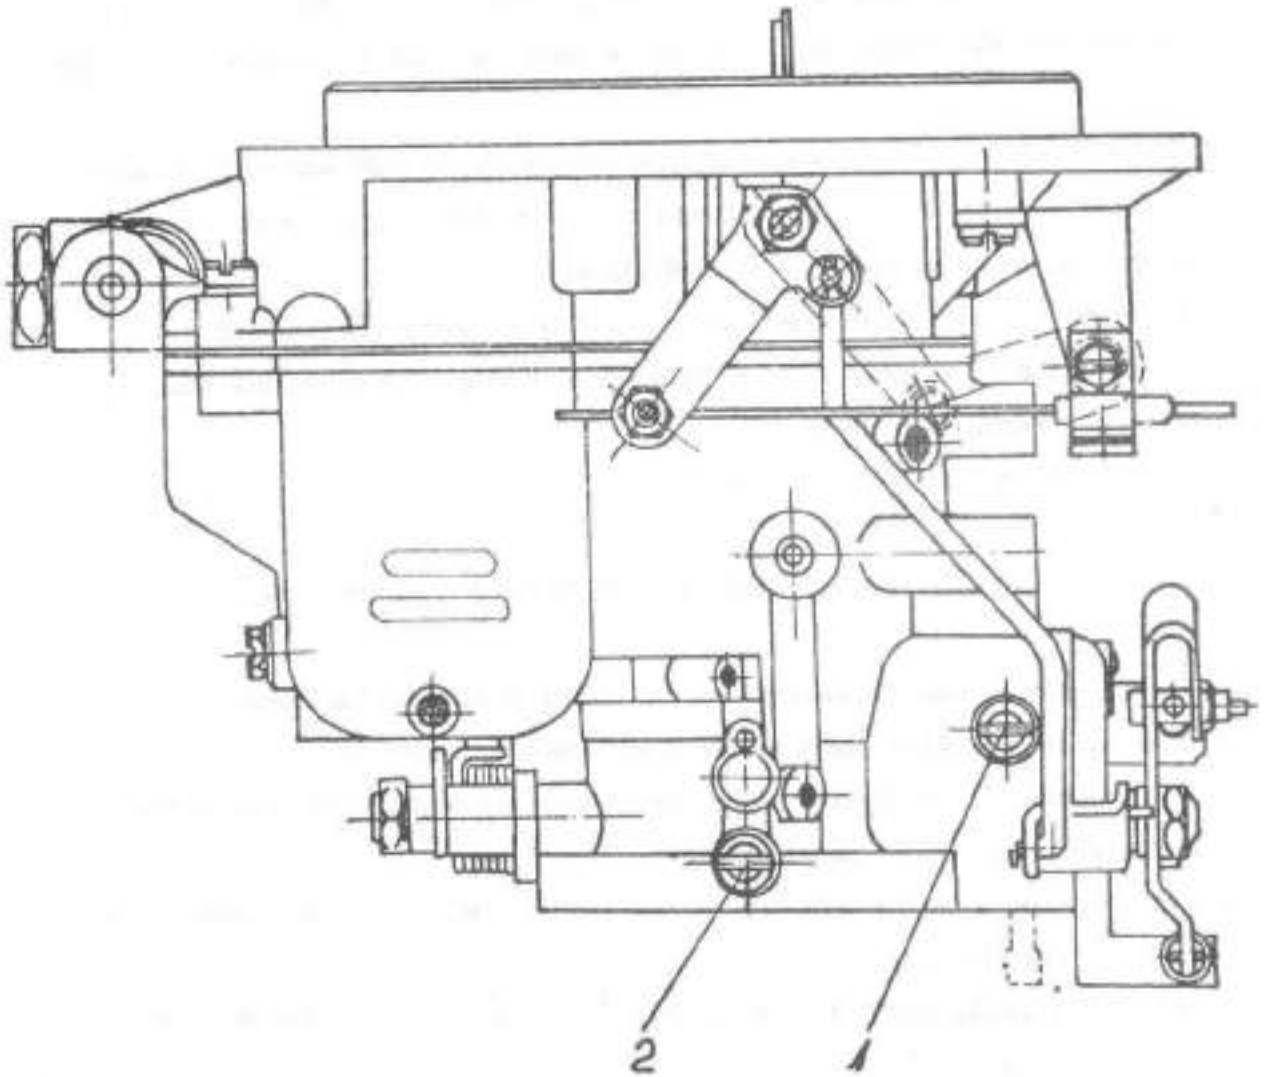

Fig. 2.25. LOCATION ON CARBURETTOR OF IDLE SPEED ADJUSTING SCREWS.
- Operating the butterfly adjusting screw (1) (see fig. 2.25), adjust engine speed at about 750 r.p.m.
- Screw completely the R.H. idle mixture adjusting screw (2) and then unscrew it 1- 25 turns.
- After that, operate again the butterfly adjusting screw (1), until the engine speed of 750 r.p.m. is obtained.